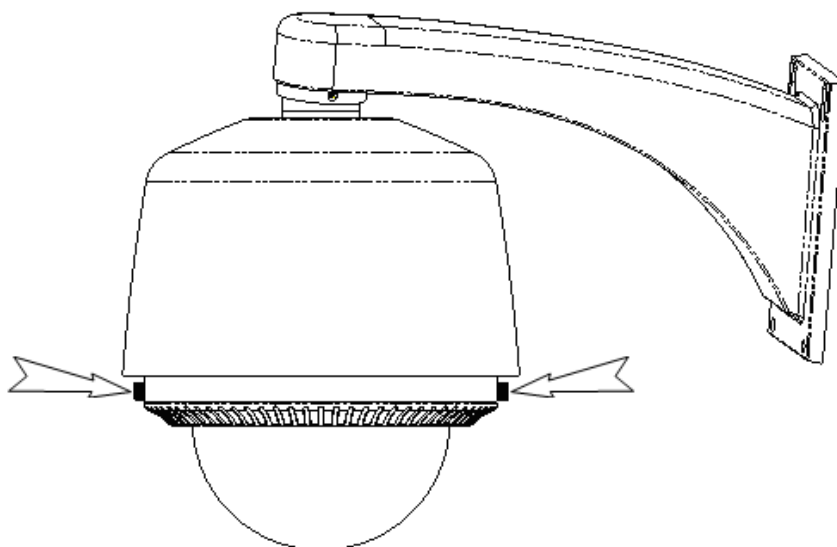

Figure 1.2.8 Install Bubble
7. Install the bubble and fasten the two set screws on both sides, as shown in Figure 1.2.8.